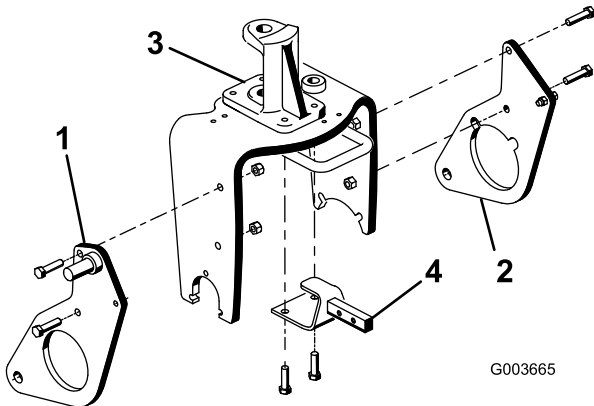

Figure 6
and locknuts as shown in Figure 6. Do not tighten the fasteners.
- Repeat the procedure with the left hand plow plate (Figure 6).
- Remove and discard the 2 bolts securing the front of the steering pivot to the top of the castor fork (Figure 6).
- Using the castor fork and steering pivot mounting holes, mount the hitch frame bracket to the underside of the castor fork with 2 bolts (1/2 x 1-3/4 inches) (Figure 6). It may be required to partially deflate the tire to gain clearance.